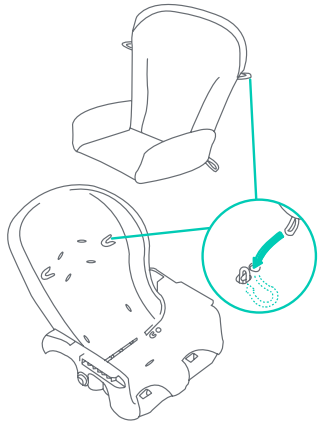

Fig. 9a
- 9) • Loop the flap on the back of the pad over the top of the Seat Back. Connect the Seat Pad to the Seat Back with the two Elastic Loops. These fit over the Attachment Tabs located near the top harness slots (Fig. 9a).